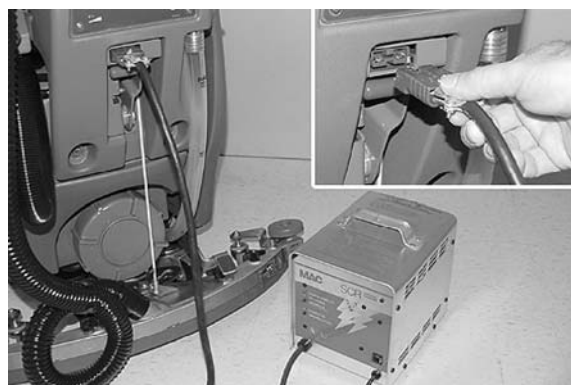

FIG. 36
6. Connect the charger's DC cord to the machine's battery receptacle at the rear of the machine (Figure 36).